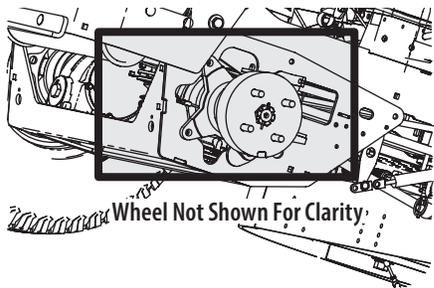
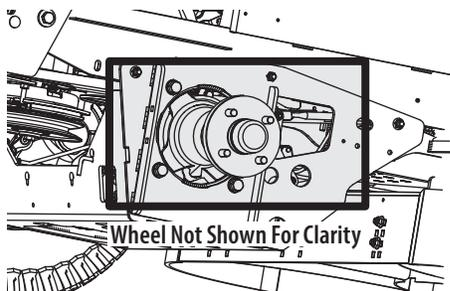

Figure 30
Figure 31
- Clean around and near the transmission, axle and the fan area (Figure 30 for Parker transmissions and Figure 31 for Hydro-Gear transmissions).